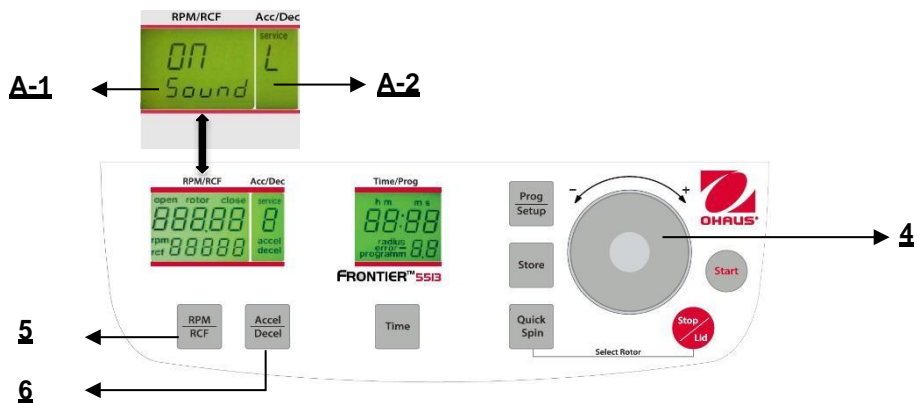

Figure. 29
Proceed as described under point 4.1.2 to enter this program mode and then press the key **"Accel/Decel"** (6). In the display **"Acc/Dec"** (A-2) the word **"Service"** flashes. Now select the letter **"L"** with the adjusting dial (4). As a result, the words **"On Sound"** appears in the display **"RPM/RCF"** (A-1). If you press the key **"RPM/RCF"** (A-1) now, the word **"On"** flashes and you can switch off the sound with the adjusting dial (4) (see figure 29).